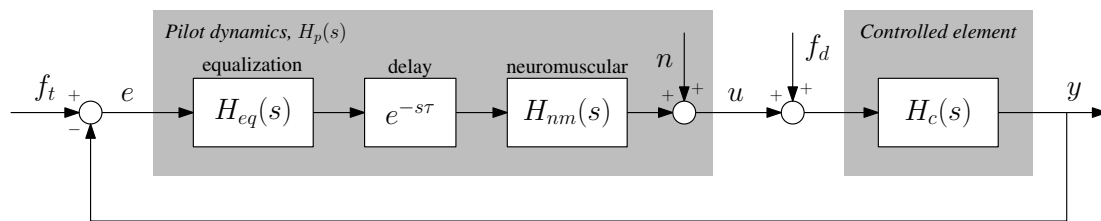

Figure 1: Block diagram of a tracking task.
In a tracking task as shown in Figure 1, a pilot is manually controlling the “controlled element”, whose dynamics are given by the transfer function $H_c(s)$. For the tracking task you will be considering, the pilot was to make the controlled element follow the reference trajectory defined by the target forcing function f_t , while also countering the perturbation of the controlled element by the disturbance forcing function f_d . These two forcing function signals are both multisine signals, to allow for application of black-box frequency-domain system identification for this closed-loop system. As indicated in Figure 1, the input and output of the pilot’s control dynamics are the tracking error signal (e) and the control signal (u), respectively. In this assignment, you will apply system identification techniques to find a good model for describing the pilot dynamics $H_p(s)$ based on real measurements of these in- and outputs of the pilot.
1. A brief introduction on the characteristics of pilot control behavior in tracking tasks, as depicted in the block diagram of Figure 1. (**3 points**)